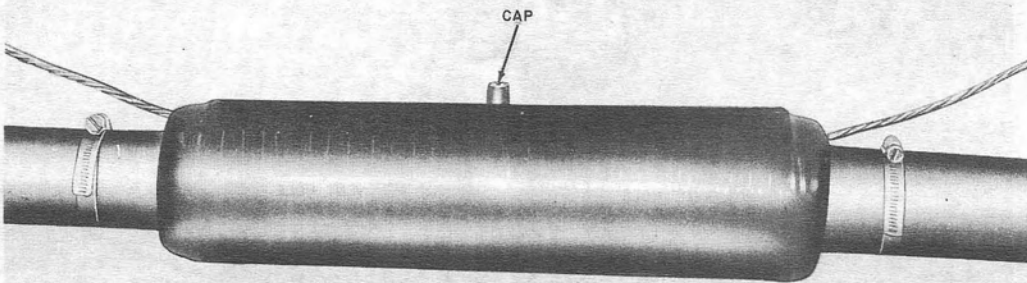

Fig. 30—Completed Pressure Plug
- (u) Seal the sleeve injection port, using the caps provided with the flange in the J plug compound package (Fig. 30).